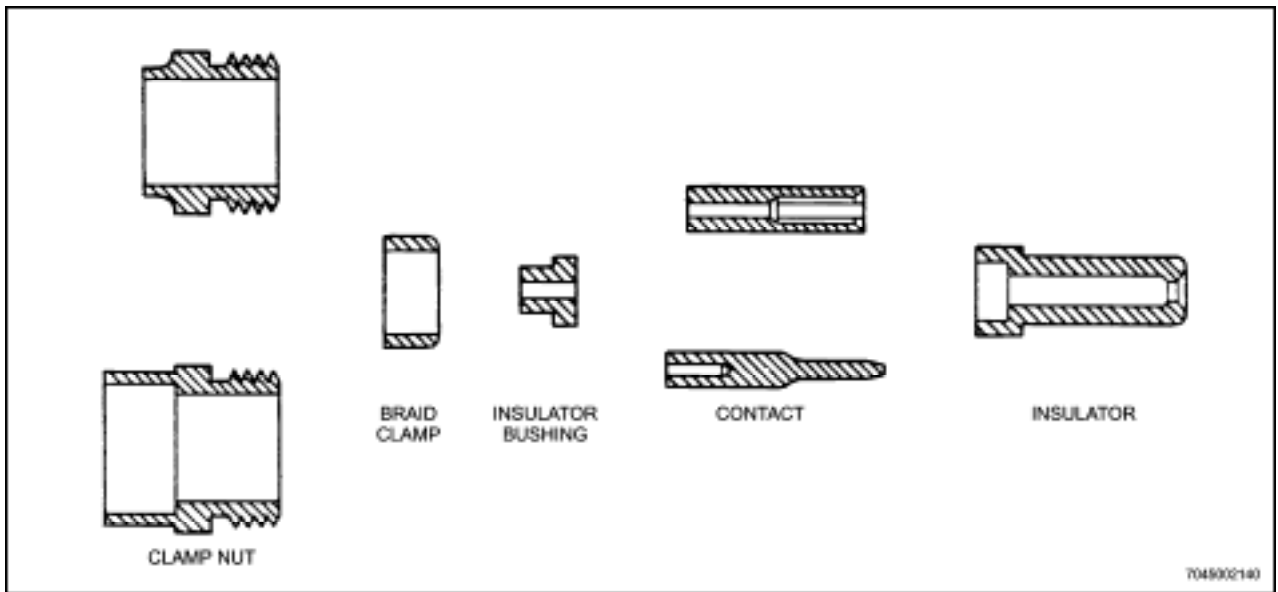

Figure 12-34 MB Connectors - Exploded View
26. These are small, lightweight, bayonet type, quick connect/disconnect connectors, used with small RF cables where peak voltage is not more than 500 volts. These connectors do not carry a military number. No soldering is required in the assembly of plugs to solid centre conductors, such as RG58/U, 59/U, 62/U, 71/U, and 141/U. All jacks require soldering. Table 12-6 lists the more common connectors in the MB series and shows the coaxial cables associated with each. These connectors consist of a plug or jack body assembled to coaxial cable with clamp nut, braid clamp, and insulator bushing. (See Figure 12-34.)